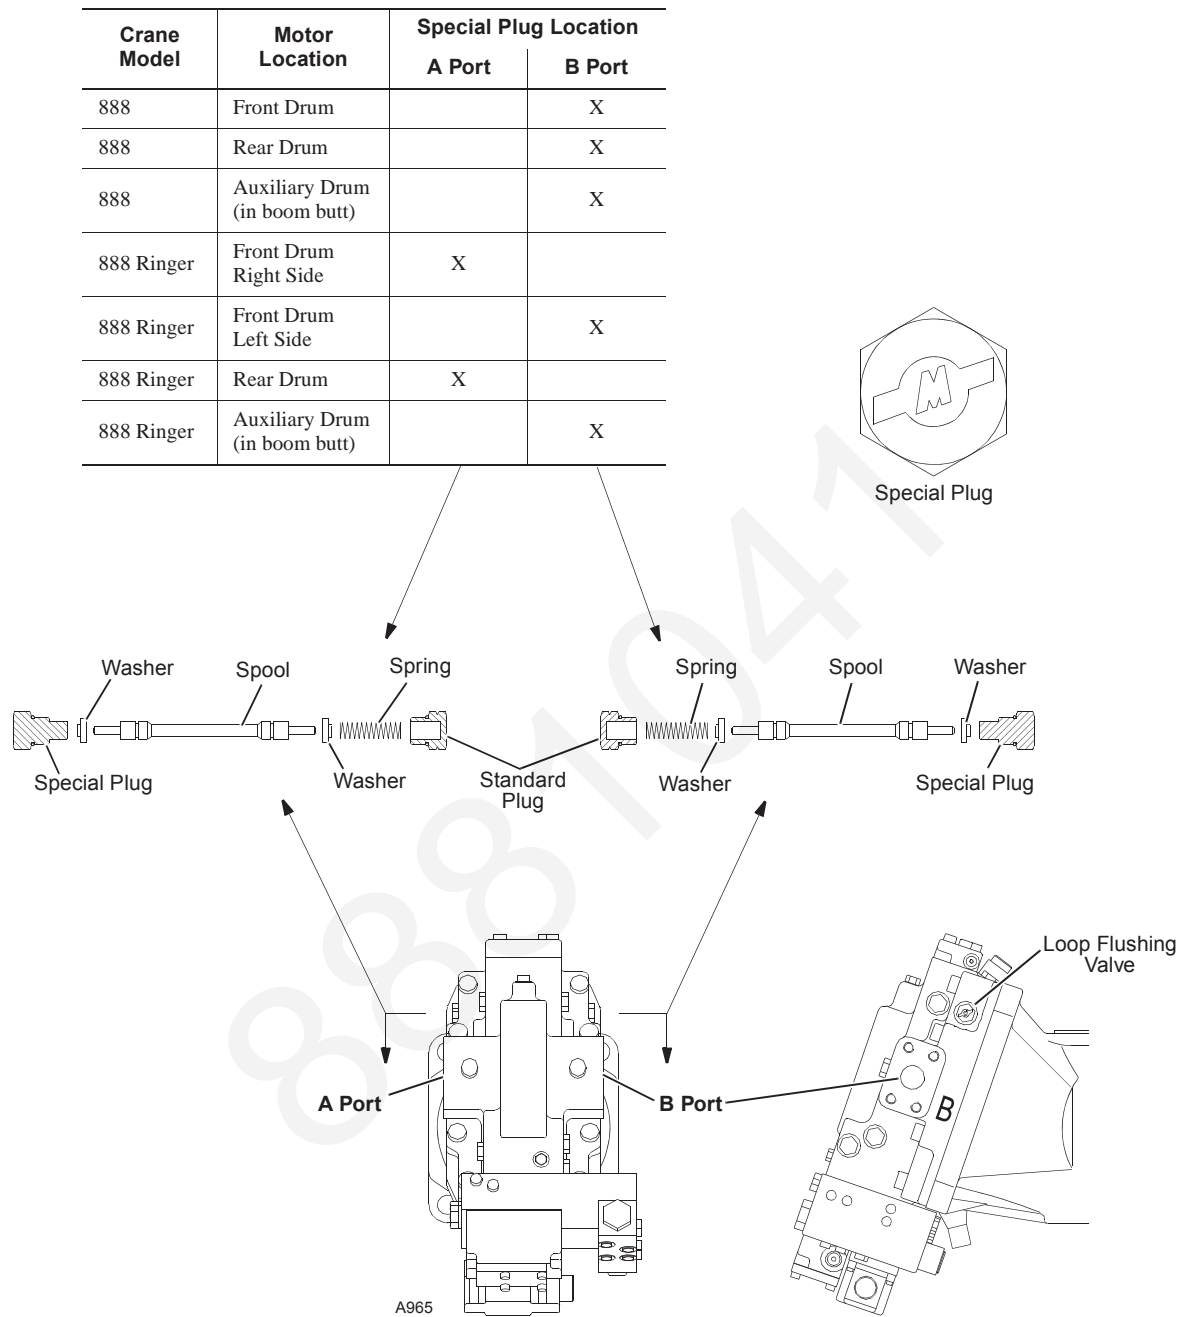

FIGURE 1
Refer to Figure 1 for identification and proper orientation of the loop flushing valve in the various load drum motors on the subject cranes.
1. Determine if loop flushing valve plugs are properly positioned as shown in Figure 1.
- d. Install special plug on proper side of motor. See Table in Figure 1.